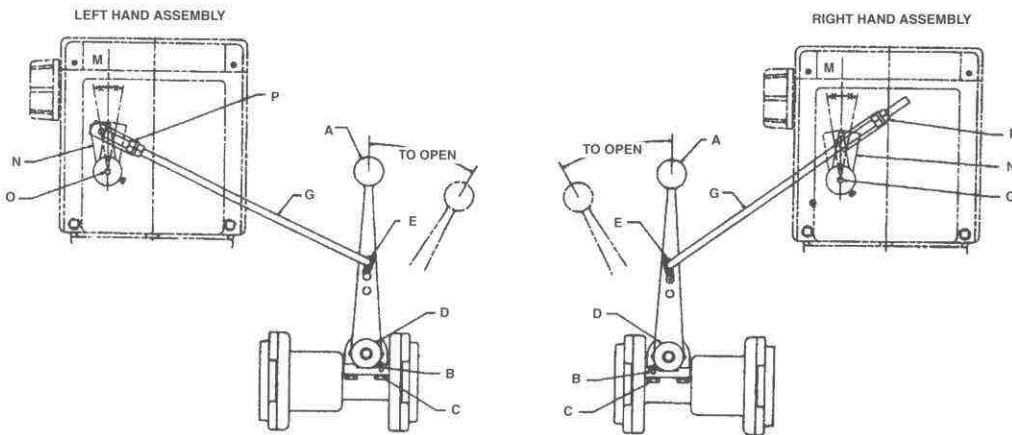

FIGURE 3
1. Depress the emergency stop button on the register and turn the shaft (O) clockwise (as viewed from rear of register).
2. Assemble register arm (N) on knurled knob in position as shown for specific assembly. (See Fig. 3). Arm should move an equal distance each side of vertical center line (M) (Angle $x=x$).
3. Assemble one nut (P) on connecting rod (G) and the other end of the connecting rod to the center hole in handle (A) using washers and cotter pins (E).
4. Open valve all the way. Turn shaft (O) counter clockwise to latch up mechanism. With valve held open tighten nut (P) against register arm link. Then assemble and tighten second nut at (P).